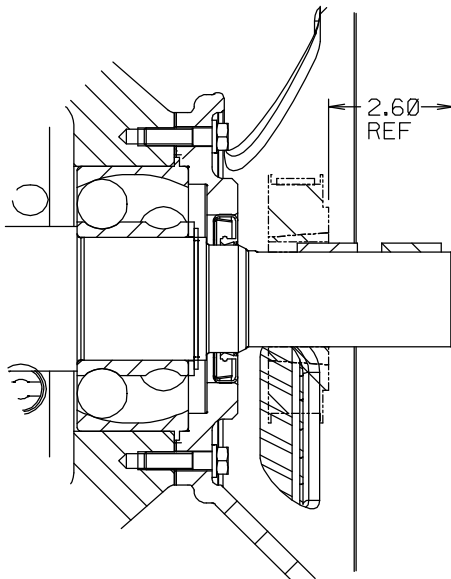

Figure 10. Compressor Drive Sprocket Positioning
drive key (31, Figure 5). Install the bushing (10) and sprocket (11) on the shaft to the dimension shown in Figure 10.
When properly installed to the dimension shown in Figure 10, the key (30, Figure 3) **will not** extend fully through the bushing. This is an acceptable fit for this application.
To ease installation of the seal, lubricate the shaft sleeve O-ring and the external stationary seat O-ring with a very **small** amount of light lubricating oil. See Figure 10 for seal part identification.